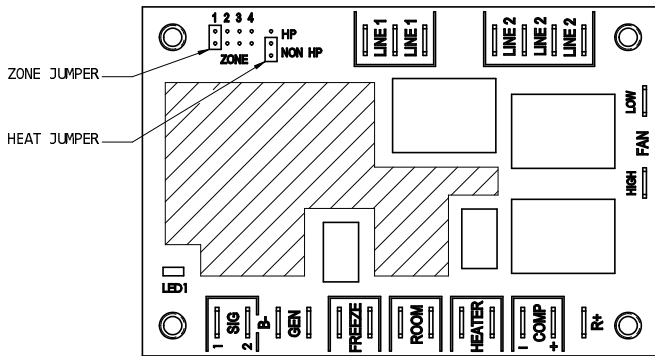

FIGURE 3
2. Set the "zone" jumper to the proper zone position for the particular position the air conditioner or heat pump will be in the coach (**Refer to Figure 3 – Zone 1 is shown**). Zones should be numbered from the front of the back of the coach with Zone 1 in front.
3. Set the "HP"/"NON HP" jumper to "HP" if the unit is a heat pump or to "NON HP" if the unit is not a heat pump (**Refer to Figure 3 – Non HP is shown**).